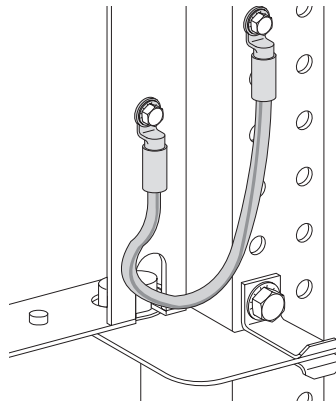

Fig. 31
- Create an equipotential connection for the doors using a green/ yellow wire (see Fig. 31).